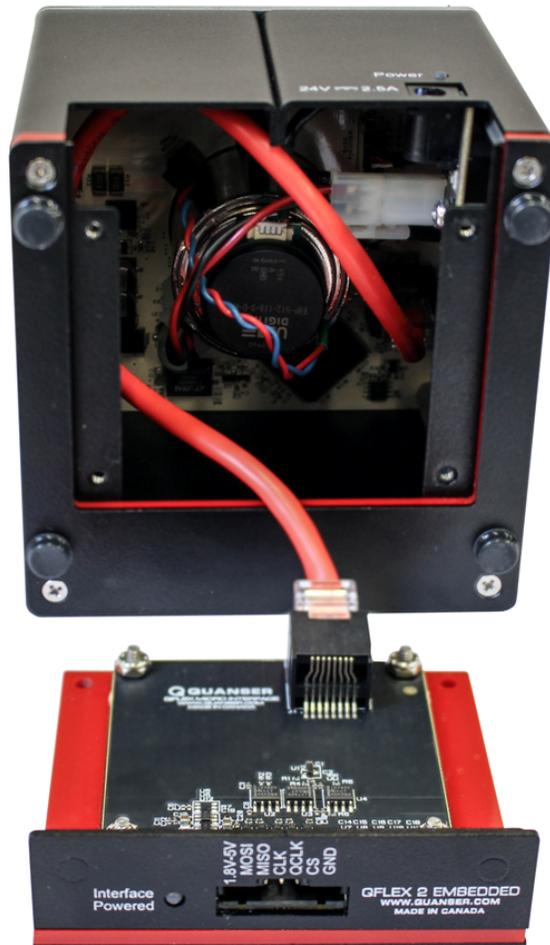

Figure 3.2: Changing the QFLEX panel
3. Remove the four screws at the corners of the QFLEX panel to release the panel from the QUBE chassis. Figure 3.2 shows the QUBE-Servo 2 with the screws removed